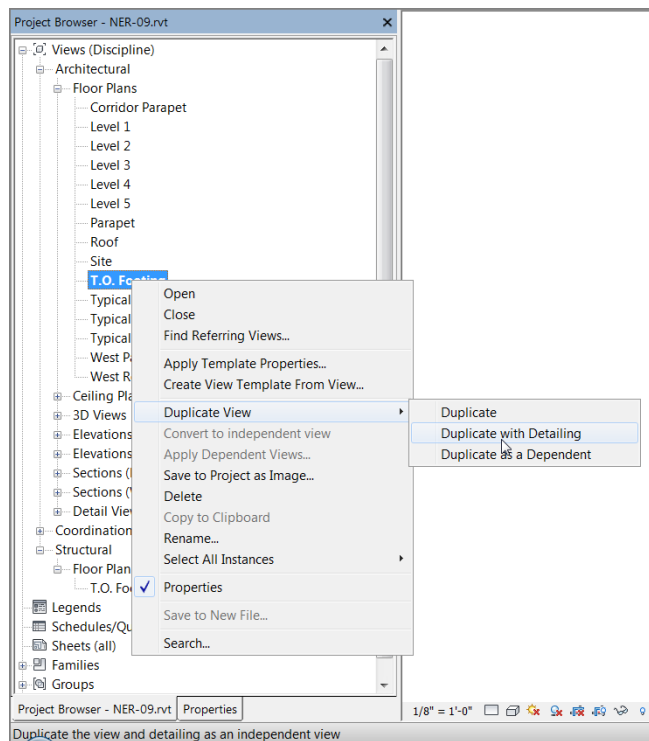

FIGURE 8.70: Selecting Duplicate View a Duplicate With Detailing
1. In the Project Browser, go to Floor Plans, right-click T.O. Footing, and select Duplicate View ➤ Duplicate With Detailing, as shown in Figure 8.70. The new view opens.